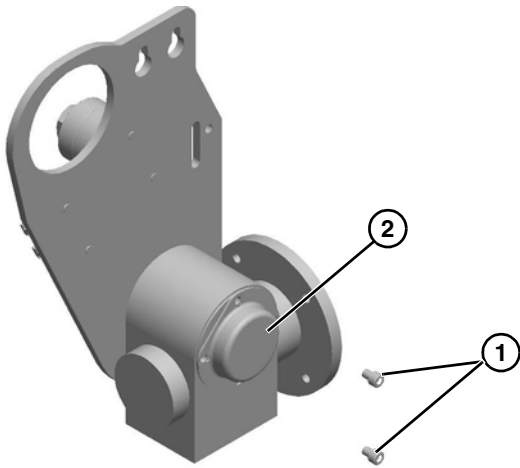

Figure 32
- Remove two screws (**Figure 32, item 1**) and detach output shaft cover (**Figure 32, item 2**).